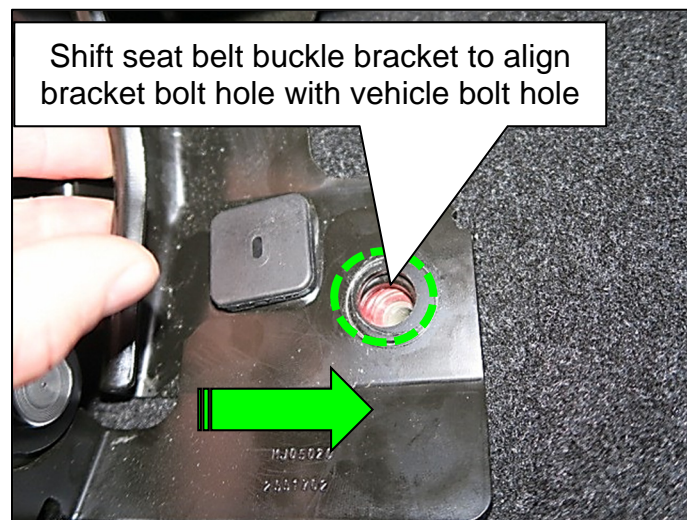

Figure 7
8. Align the seat frame and seat belt buckle bracket with the bolt hole (Figure 7), and then install a new bolt(s).